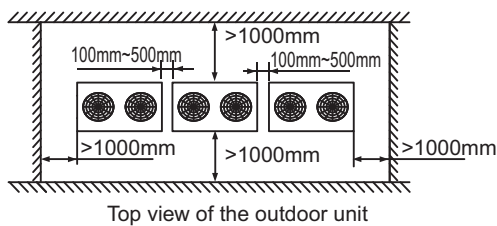

Fig.4-8
- When installing the unit, leave a space for maintenance shown in Fig.4-8. Install the power supply at the side of the outdoor unit. For installation procedure, see the power supply device Installation manual.